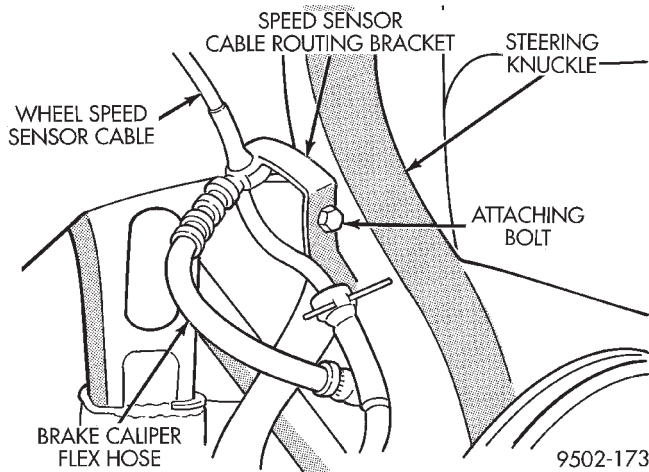

Fig. 18 Wheel Speed Sensor Cable Routing Bracket
(8) If equipped with antilock brakes, install the speed sensor cable on the steering knuckle and securely tighten bolt (Fig. 18).